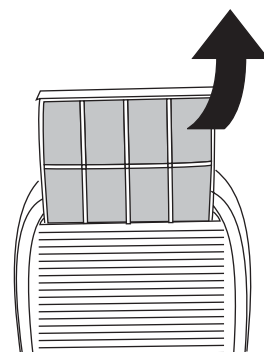

fig. 5
- To remove the air filter, pull it out (Fig. 5).